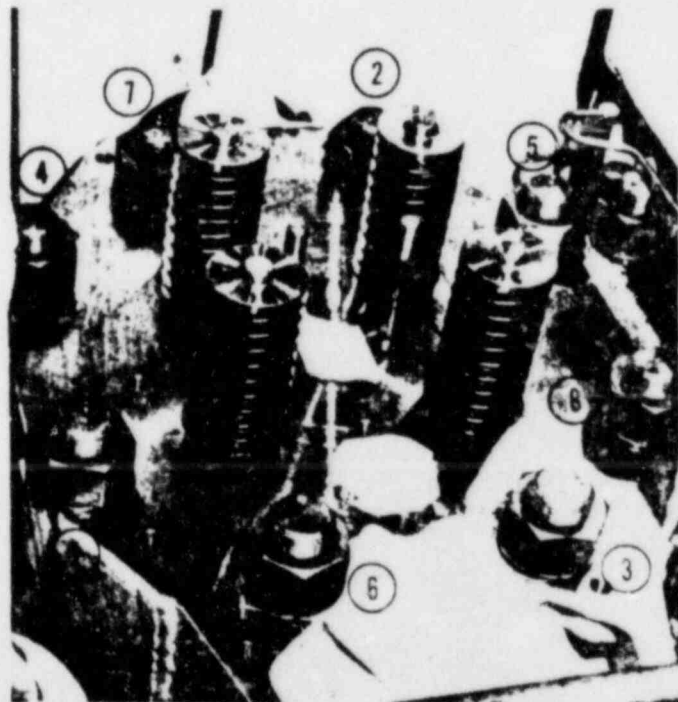

Figure 6-B-4. Tightening Sequence For Cylinder Head Stud Nuts
- d. Tighten nuts in increments, and in a criss-cross pattern, following the sequence shown in figure 6-B-4. Torque to the specified torque value. This procedure will pull the head down evenly.